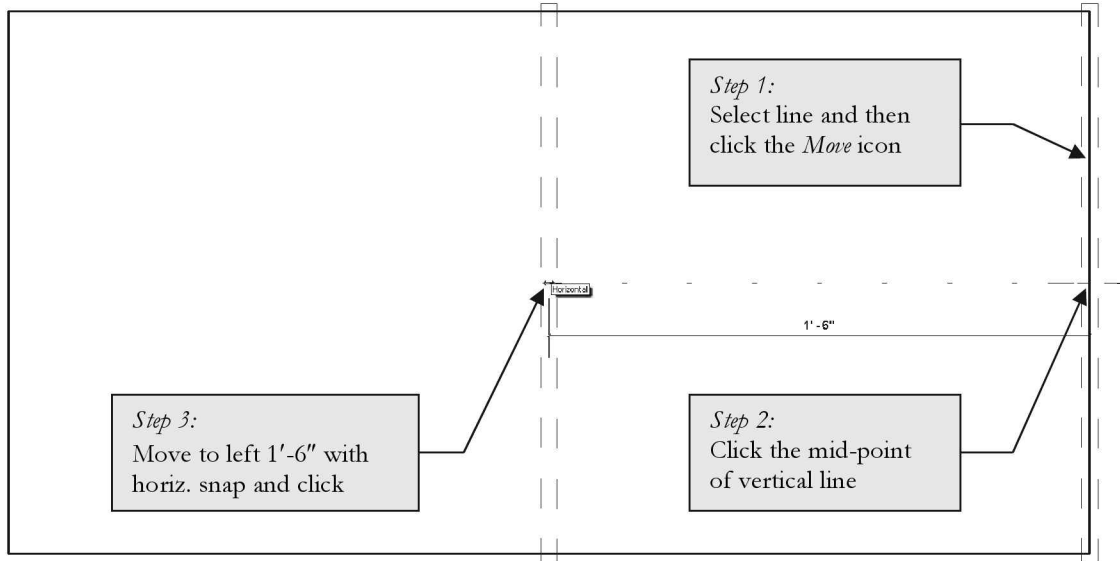

FIGURE 4-1.3 Move tool used to stretch a rectangle
14. Pick the mid-point of the vertical line, move the mouse **1'-6"** to the left and then click again (Figure 4-1.3).